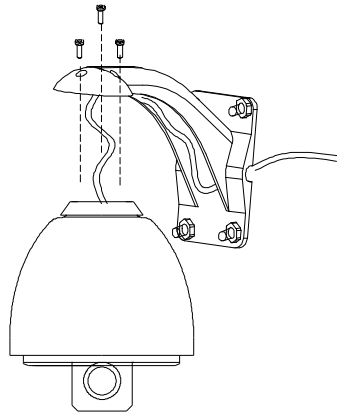

Figure 12
10. Install the aluminum PTZ head on the bracket (Figure 12).